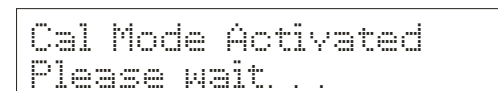

Figure 15
5. Press **>/CAL** to enter the pH calibration mode. The display flashes *Cal Mode Activated, Please wait...*. See **Figure 15**. The meter is now in pH calibration mode.